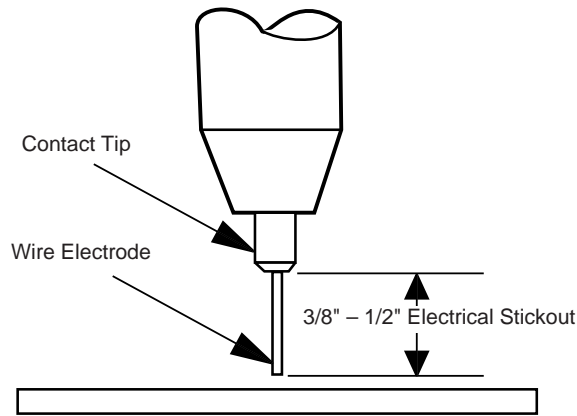

FIGURE B.6
13. Refer to Figure B-6. Cut the wire off 1/4" – 3/8" (6 – 10 mm) from the end of the tip. The WELD-PAK 3200HD is now ready to weld.